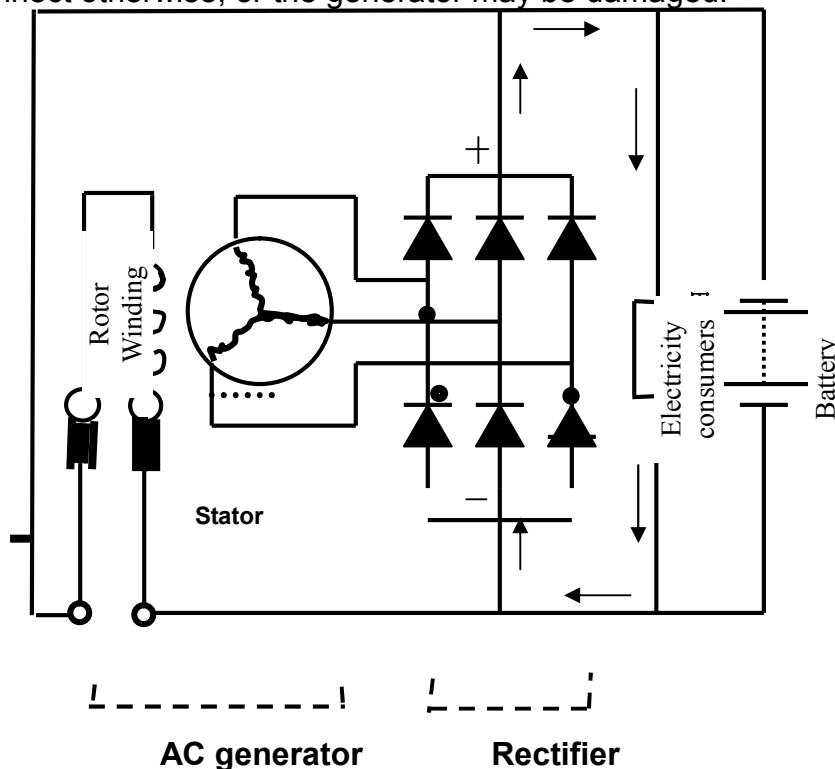

Fig. 1 AC generator wiring diagram
c) Shutdown and reset. The automatic reset mechanism of motor wiper is as shown in Fig. 1—21 (b). The nylon impeller is embedded with copper ring 7 and 9. The copper ring has two parts. The larger copper ring 9 is connected to the casing to earth. Contact piece 3 and 5 is made of phosphorus copper or other elastic material.
When wiper variable speed switch is in "0" position, if the rubber brush does not stop at bottom edge of the windshield glass, the impeller turning will make contact 6 and copper ring 9 connect, so the current keeps flowing into the armature. Here the current forms a circuit from battery positive pole→power switch→fusing element→brush B1→variable speed switch→contact piece 5→contact 6→copper ring 9→earth→battery negative terminal. The motor runs at low speed until the impeller turns to the position shown in Fig. 1—21 (a) and contact 4 and 6 connects with copper ring 7.